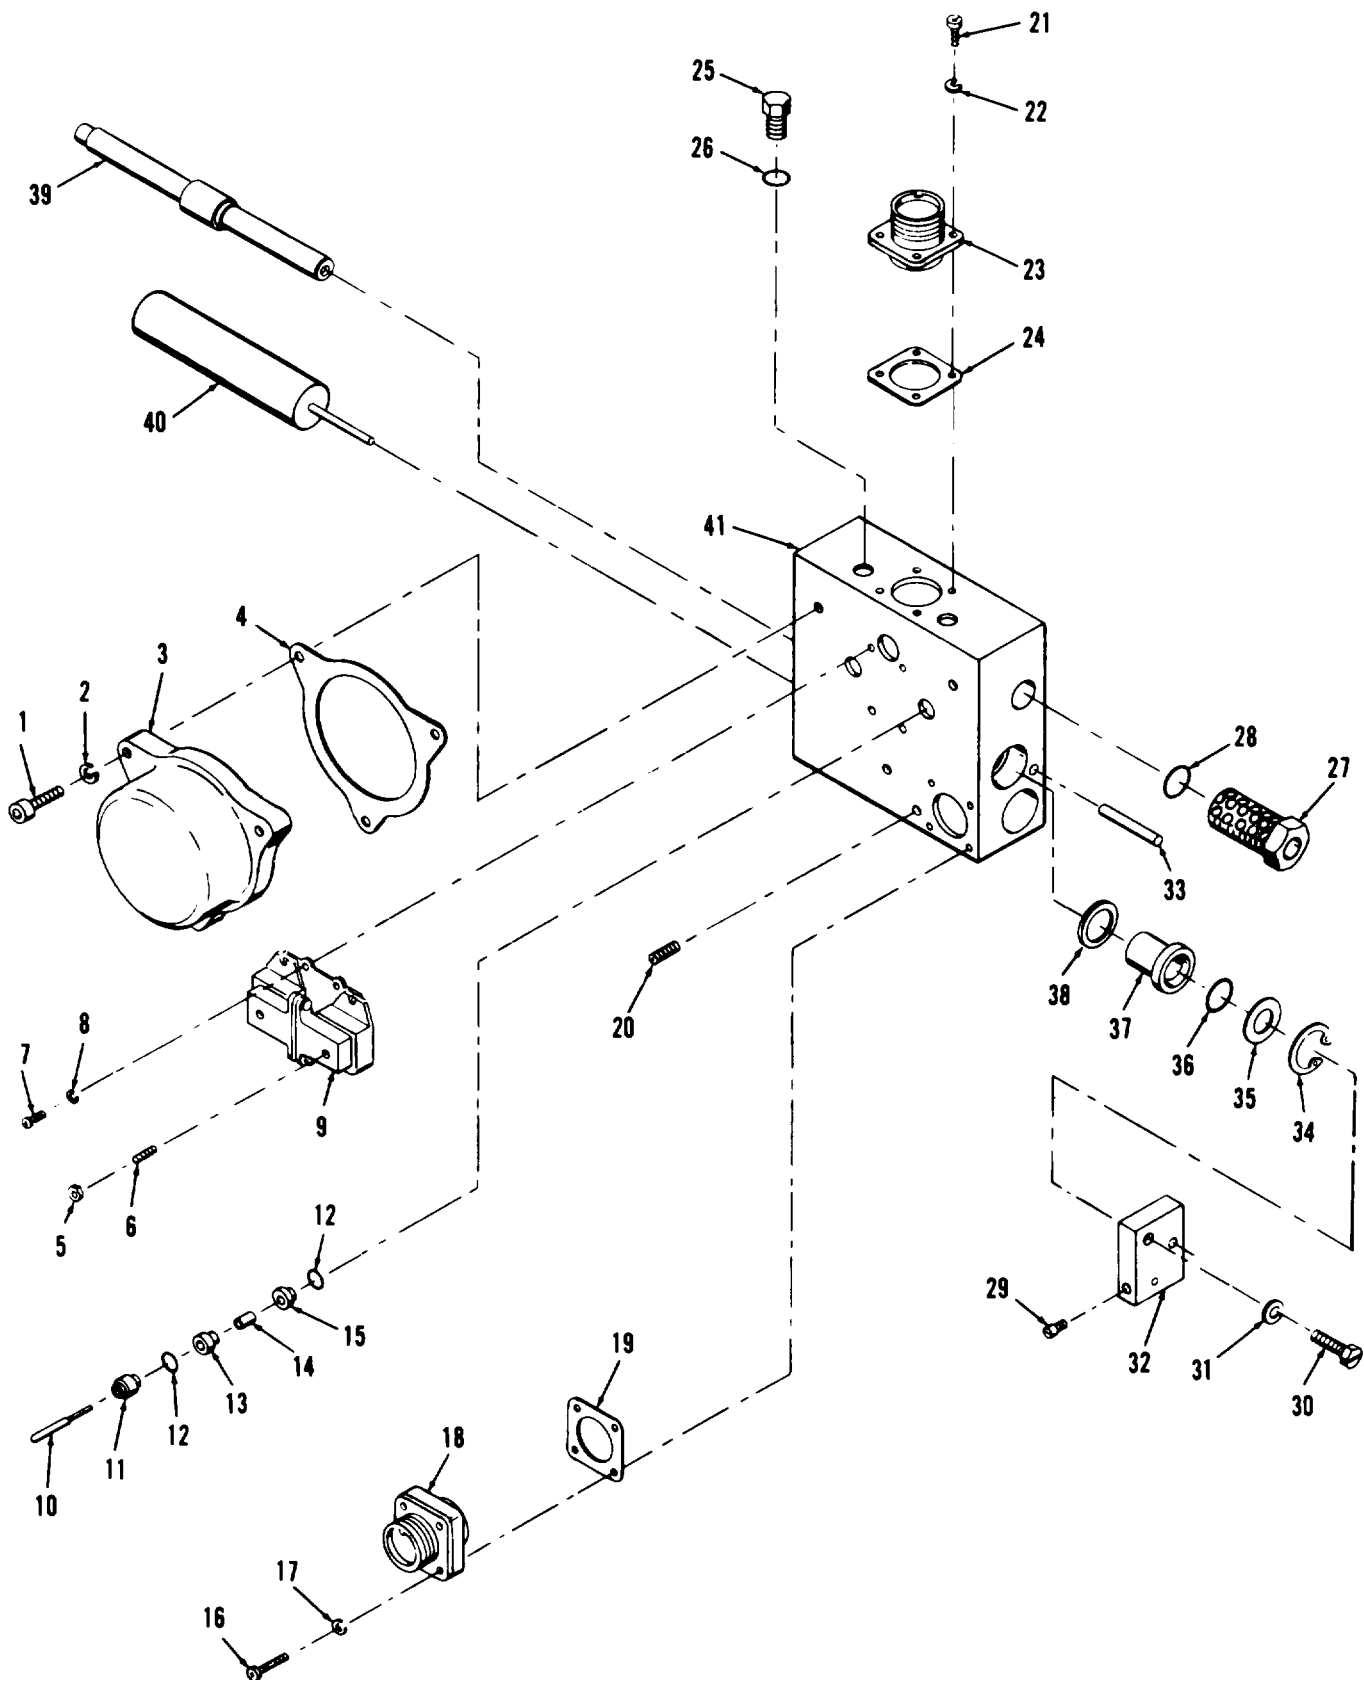
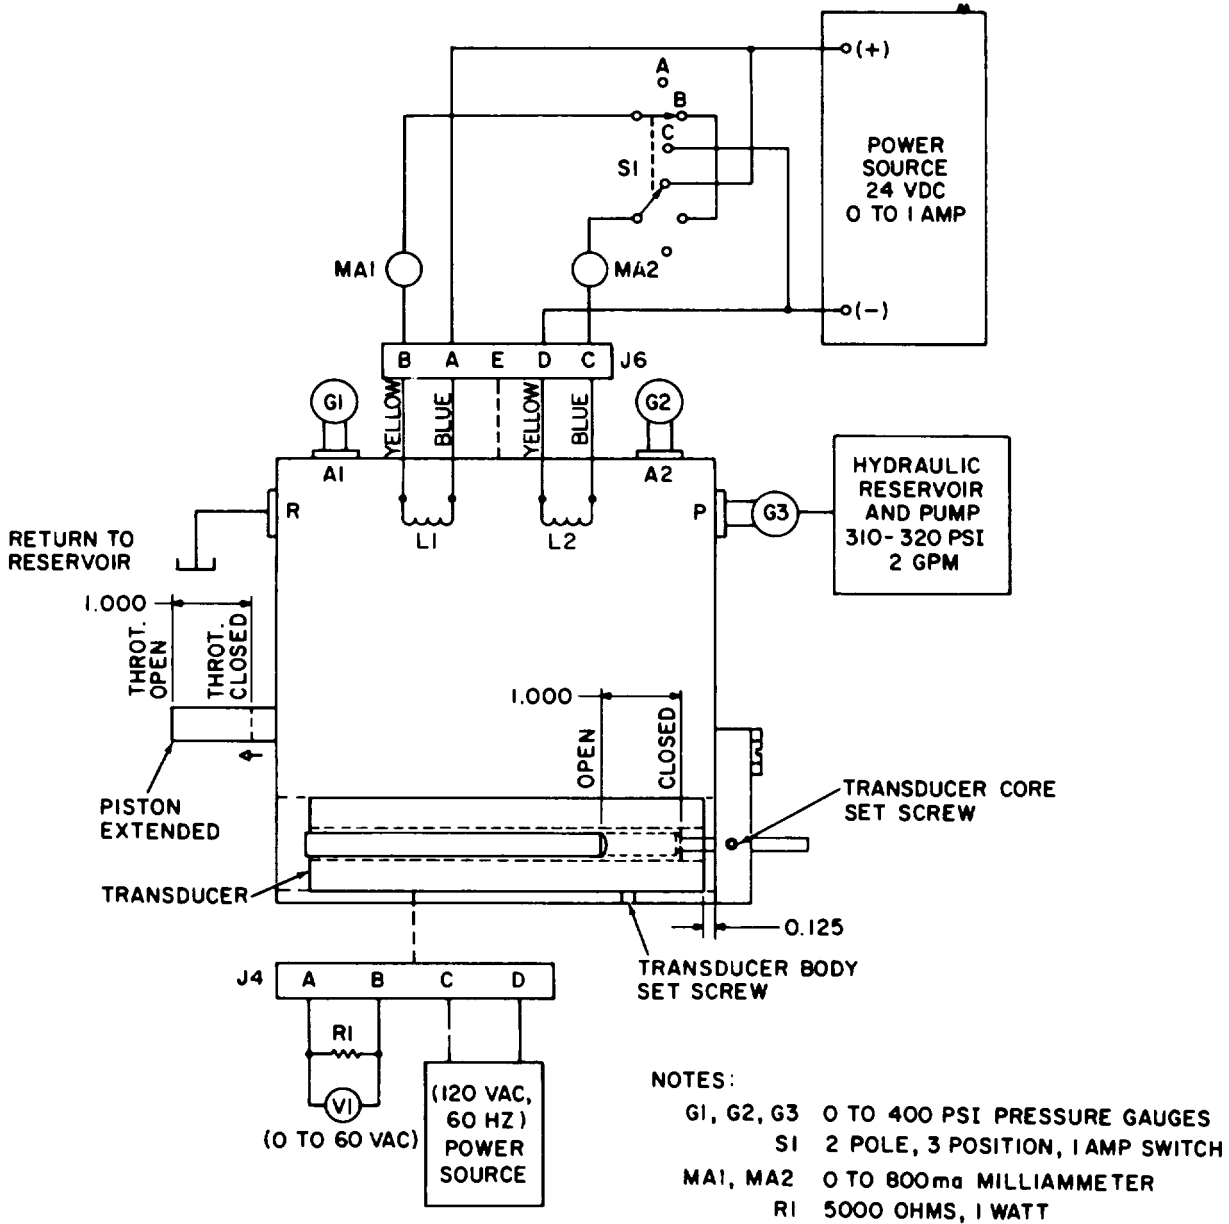

Figure 8-26. Governor actuator unit, exploded view (precise sets only)
Figure 8-27. Governor actuator unit, test and adjustment
Refer to figure 8-26 and disassemble governor actuator unit in the order of index numbers assigned. Pay particular attention to the following.
Legend to figure 8-26:
Refer to figure 8-26 and reassemble governor actuator unit in the reverse order of index numbers assigned. Pay particular attention to the following:
a. Coat piston (39) with clean hydraulic oil conforming to Military Specification MIL-H-5606, prior to reassembly.
b. If receptacle (23) had to be removed due to armature and coil assembly (9) replacement, reconnect coil leads to receptacle L1 and L2 coils as shown in figure 8-27 as they are located when transducer
body of actuator unit is positioned like that shown in figure 8-27.
c. When inserting transducer assembly (40, figure 8-26) in transducer body (41), refer to figure 8-27 for location of transducer body and position of core in relation
d. After core is positioned in transducer body, tighten set screw (29) in link (32) to secure core control arm.
Connect the governor actuator unit to test equipment as illustrated in figure 8-27 and proceed as follows:
2, If gauges G1 and G2 do not indicate the required pressures, adjustment of valve screws (6, figure 8-26) on the armature and coil assembly (9) will have to be made. Proceed as follows.
(b) Loosen lock nuts (5, figure 8-26) on each valve adjustment screw (6).
c. Actuator Output Shaft Position Transducer Test and Adjustment. Connect voltmeter V1 and power sources to receptacle J4 on actuator as illustrated in figure 8-27 and proceed as follows:
2. Move the actuator output shaft to fully extended position. Transducer assembly (40) locked in place at dimensions indicated in figure 8-27. V1 shall indicate 0.5 to 2.5 volts. This shall be minimum voltage regardless of what other position the output shaft is placed.
3. If voltage range on V1 is not with the required 0.5 to 2.5 volts, loosen transducer core set screw (29, figure 8-26) on link (32) and move the core relative to the body until the minimum voltage of 0.5 to